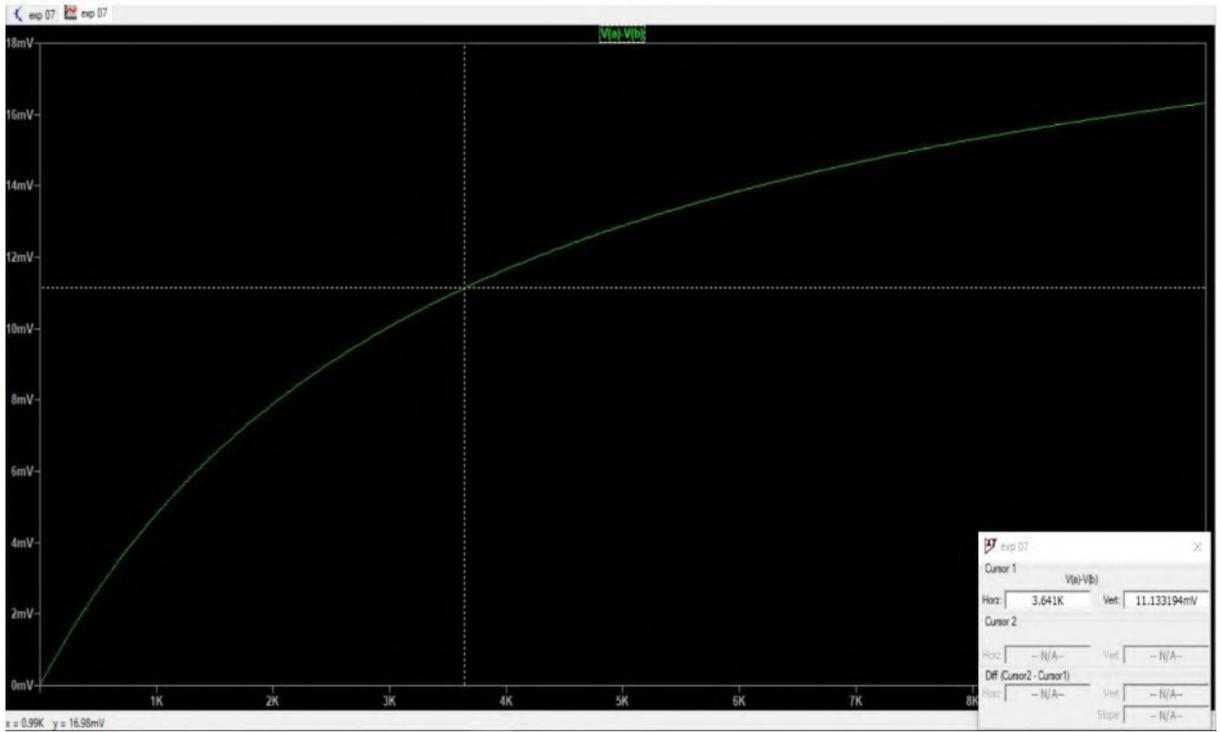

Figure: 7
- 11) Then the trace on figure 7 appears
- 12) Move the cursor on the trace (as shown in figure 7) to point 11.13 mV which is half of the open circuit voltage of node a and b found initially.